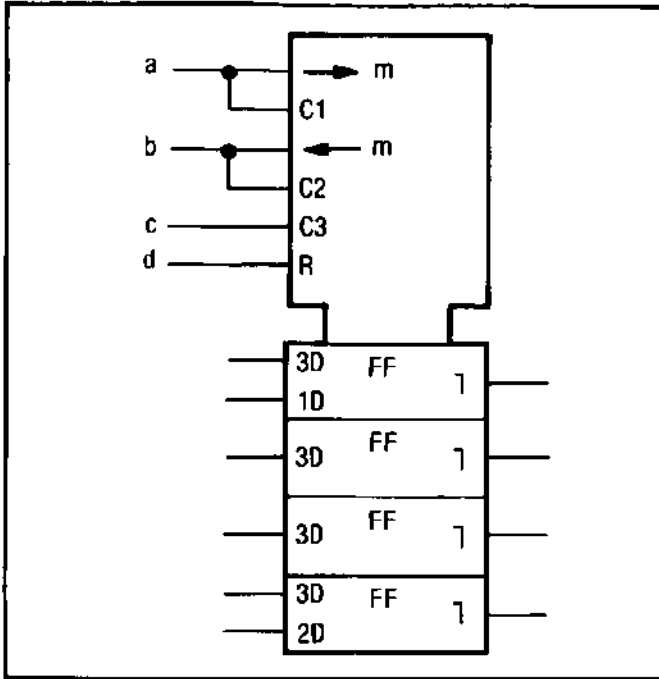

Figure 8-14. Shift Register
**Shift Register.** The shift register (see Figure 8-14) control block shows common inputs to a bidirectional shift register. Notice that ">m" means shift the contents to the right or down by "m" units. And "<m" means shift the contents to the left or up by "m" units. Note: If m=1, then "m" may be omitted. Inputs "a" and "b" are each single IC pins that have two functions. Input "a" enables one of the inputs to the top D-type flip-flop (1D) and also shifts the register contents down "m" units. Input "b" enables one of the inputs to the bottom flip-flop (2D), and also shifts the register contents up "m" units. Input "c" loads all four flip-flops in parallel (3D). Input "d" is a common reset. The output delay indicator is used because these are master-slave flip-flops.